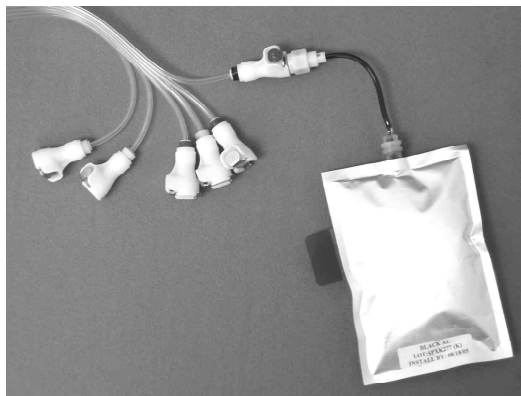

Fig. 2
2. The connectors are color coded for easy identification. Remove the plastic cap from the black ink bag and insert the male connector into the female connector on the tubing. See Fig 2. Once the black bag is attached, attach the rest of the ink bags to their corresponding colored tube.